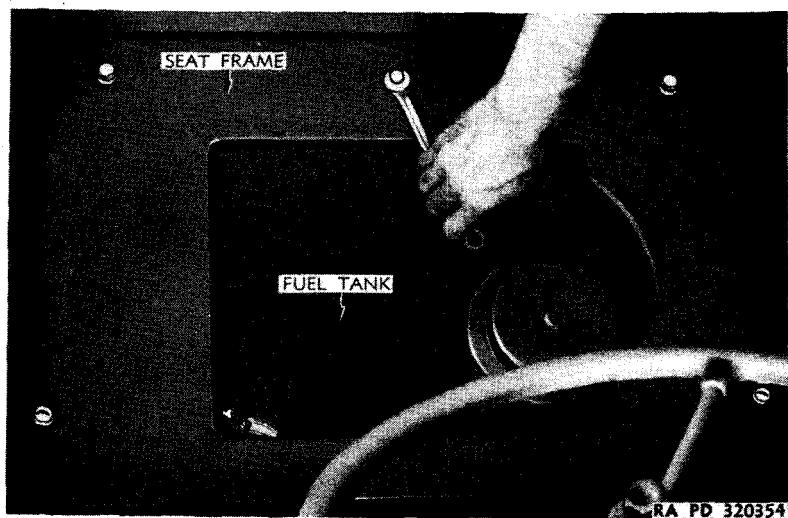
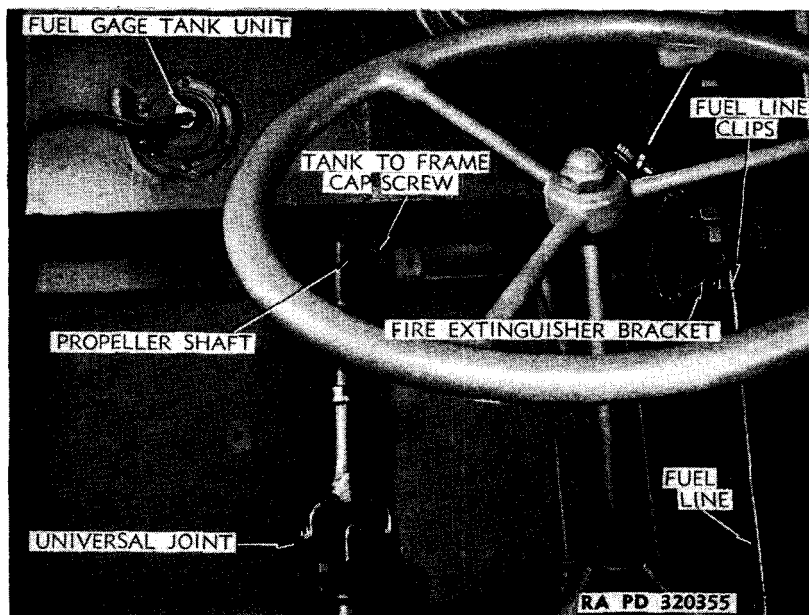
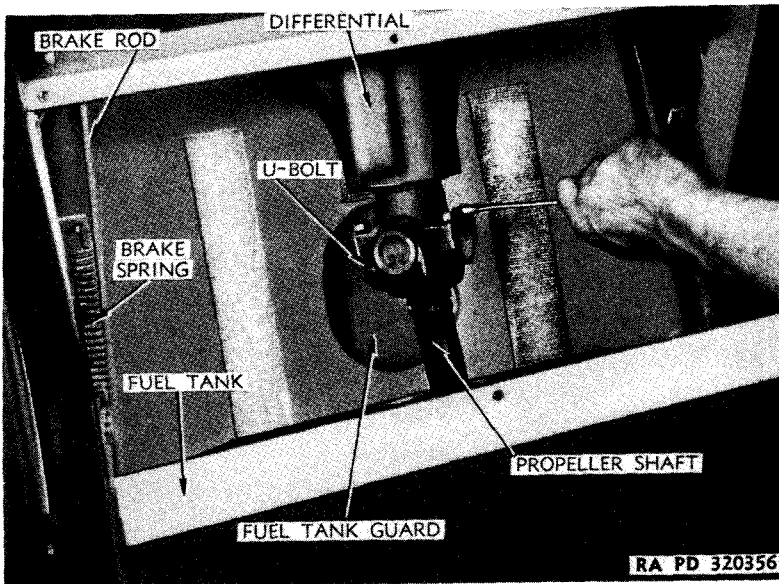

Figure 53—Removing Cap Screw from Seat Support
Figure 54—Disconnecting Fuel Line
Figure 55—Disassembly of Universal Joint
(1) **DISCONNECT FUEL GAGE WIRE AND LINE.** Remove front seat cushion. Remove two bolts and three cap screws holding seat frame to tractor frame (fig. 53). Remove fire extinguisher by unlatching clamp and pulling extinguisher from bracket. Remove six bolts holding extinguisher bracket and filler blocks to the body. Remove bracket and blocks. Disconnect fuel line at tank (fig. 54). Loosen two fuel line clips holding fuel line to body, and raise fuel line up out of the way. Disconnect fuel gage wire at tank unit.
(3) **REMOVE FUEL TANK.** Remove two cap screws holding front of fuel tank to frame cross member (fig. 54). Slide fuel tank toward transmission to uncover rear universal joint. Remove four nuts and lock washers from rear universal joint U-bolts (fig. 55). Remove U-bolts. Remove universal joint needle bearing assemblies, being careful not to lose needles. Remove fuel tank and propeller shaft assembly from tractor. Remove fuel tank front bracket spacer, if used. **NOTE:** A spacer was used on a few of the first tractors. Straighten sleeve cap tangs on front universal rear yoke, and pull front universal joint assembly from splines of propeller shaft. Pull propeller shaft through opening in fuel tank.
ends of needle bearings are inside projections on differential yoke (fig. 55). Slide fuel tank into position toward rear of tractor, install fuel tank front spacer between front fuel tank bracket and frame (if used). Install two cap screws and lock washers in front bracket, but do not tighten.